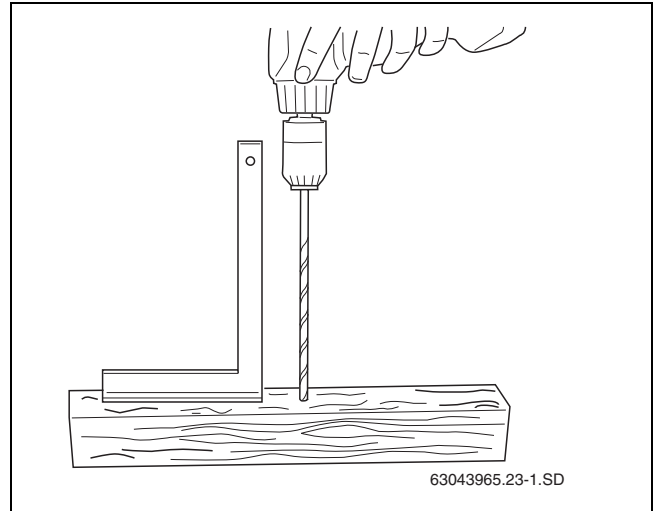

Fig. 21 Creating a drilling template
- ▶ Use timber support with an approximate length of 0.50 – 1.00 m. Drill a hole (Ø 6 mm) vertically right through the timber support (Fig. 21).